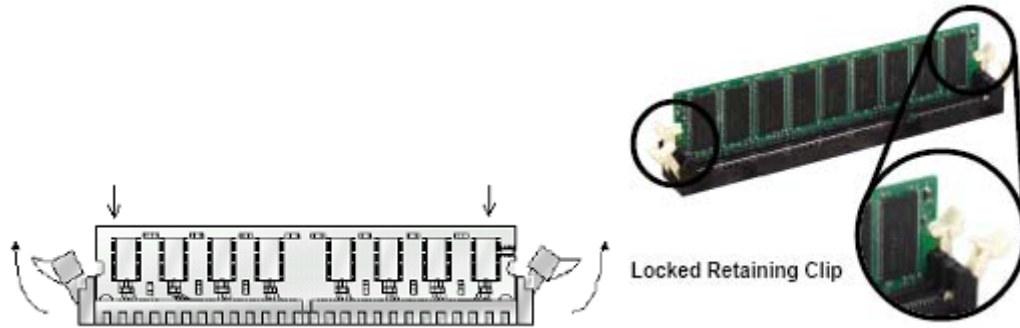

Figure 4-8: Remove DIMM Module
Step 4: To remove the memory module, push both handles outward, and the memory module will be ejected by the mechanism in the socket (**Figure 4-8**).